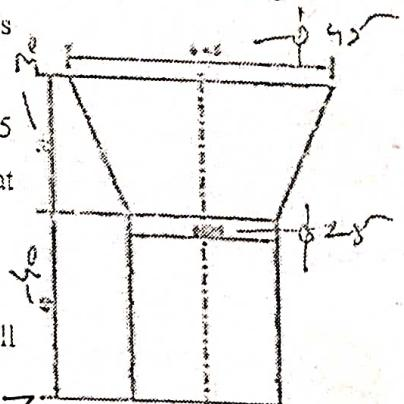

Fig. 02
- Develop the lateral surface of a funnel as shown in fig.02. All dimensions are in mm.